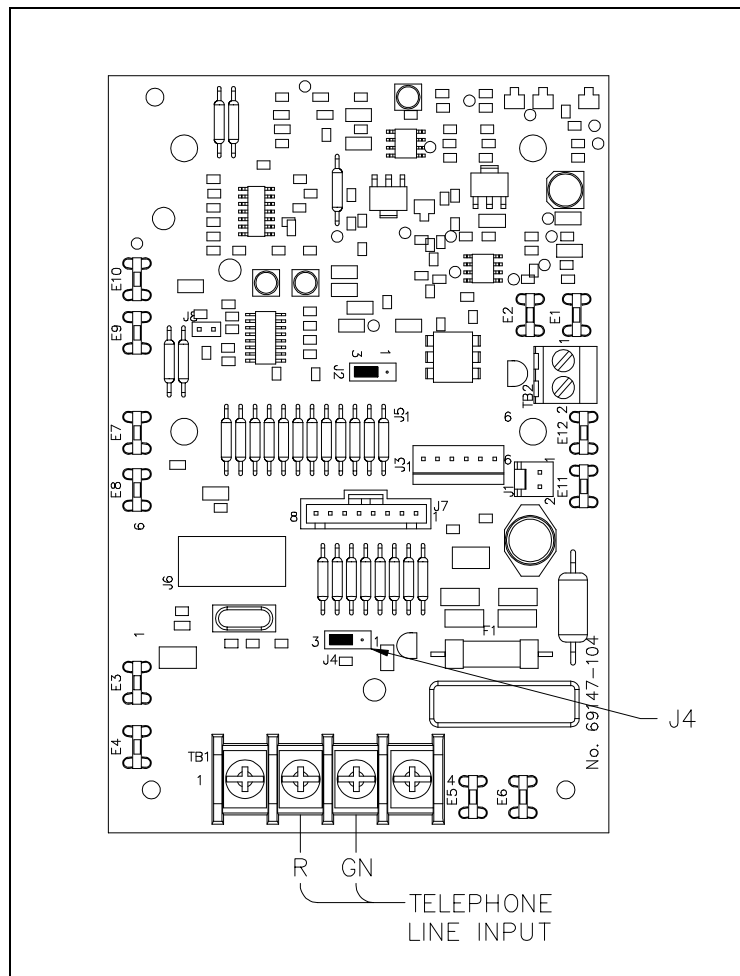

Figure 7.
2. Connect the incoming subscriber line or the telephone line suppressor (if applicable) to TB1 on the main PCBA. If there is not a Ring Relay PCBA present, see Figure 7.
The handset receiver volume control is factory set to default to its original setting (0 dB) when the telephone is hung up. To save the volume control setting, jumper **J4**, which is factory set at positions **2** and **3**, must be moved to positions **1** and **2**. Refer to Figure 7 for the location of **J4**.